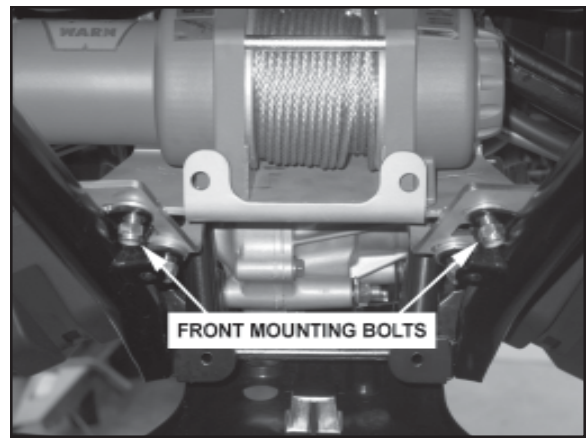

Figure 6
**5.** Using the remaining two 3/8-16 lock nuts, PN 6779, attach the two front/upper mounting bolts, **Figure 6**.
**6.** Attach the rear of the mounting plate to the ATV frame using two 1/4-20 U-bolts, PN 21445, four 1/4-20 nuts, PN 1322, and four 1/4-20 lock washers, PN 1321. Place the U-bolts around the ATV frame and into the mounting plate, **Figure 6**.